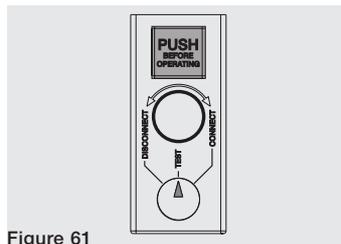

Figure 61
- circuit-breaker in test position (see Figure 61).